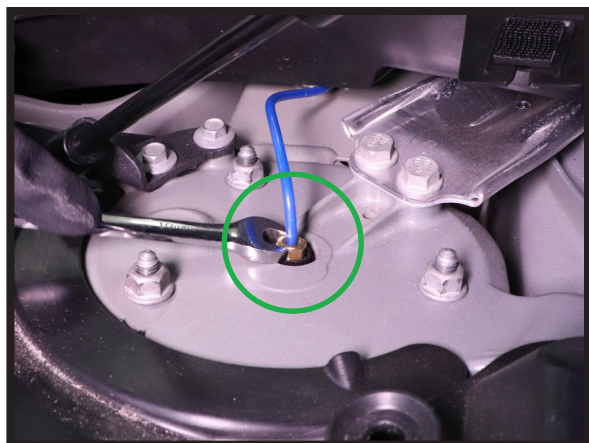

FIGURE 3
2. REMOVE APPLICABLE AIR LINE FROM THE STRUT. REMOVE OLD AIR FITTING AND DISCARD. (FIGURES 3, 4, 5)